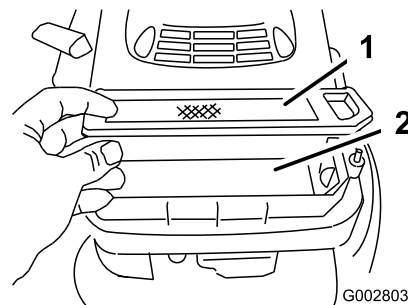

Figure 27
5. Remove and inspect the paper air filter (Figure 27), and discard it if it is excessively dirty.
6. Remove the foam pre-cleaner and wash it with a mild detergent and water, then blot it dry (Figure 27).